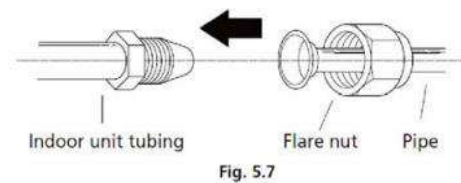

Fig. 5.7
1. Align the center of the two tubes that will connect. See Fig. 5.7.